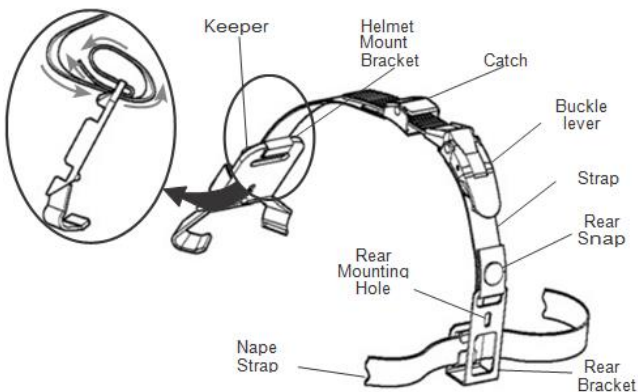

Figure 2.12. Installation of helmet mount
- (1) Remove the helmet mount from the carrying case. Refer to Figure 2.12. for helmet mount features.